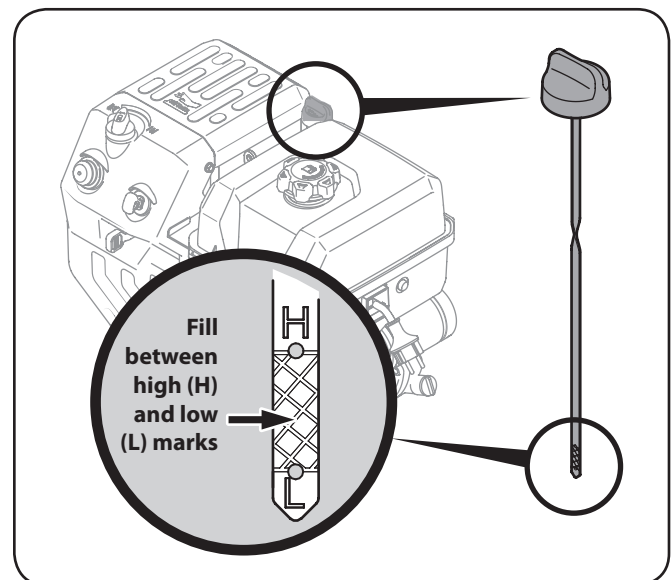

Figure 3-2
- Keep oil level between "H" and "L" marks on dipstick. See Figure 3-2.
1. Remove the oil filler cap/dipstick and wipe the dipstick clean. See Figure 3-2.
3. Remove the oil filler cap/dipstick. If the level is low, slowly add oil until oil level registers between high (H) and low (L), Figure 3-2.
4. Loosen and remove the oil fill cap dipstick from the oil filler tube. Note the oil level, if oil reading on the dipstick is below the low (L) mark, slowly add oil to reach the high (H) mark. See Fig. 3-2 or 3-3, whichever is applicable.